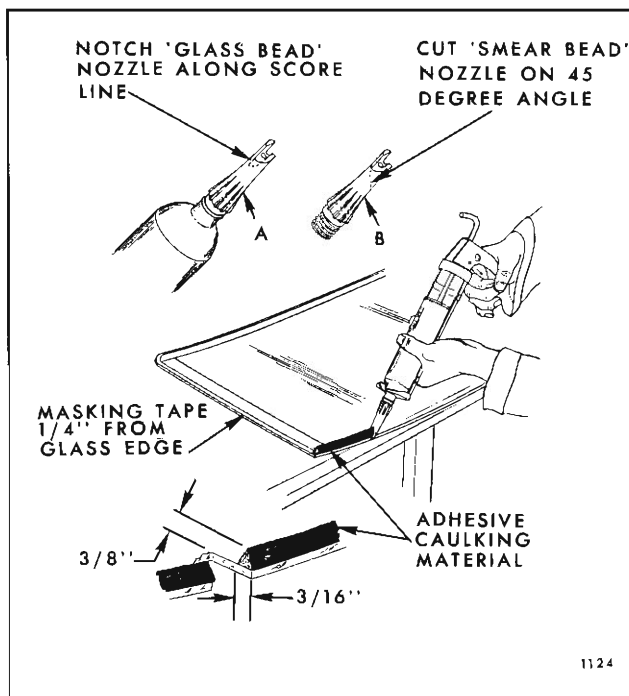

Fig. 2C11—Adhesive Caulking Material Application - Extended Method
11. Cut off tip of one nozzle along score line (Fig. 2C11). This nozzle will be used to apply bead of adhesive caulking material to glass. Cut tip off other nozzle at a  $45^\circ$  angle  $1''$  below end of nozzle. This nozzle will be used to apply "smear bead" of adhesive caulking material to pinchweld flange.